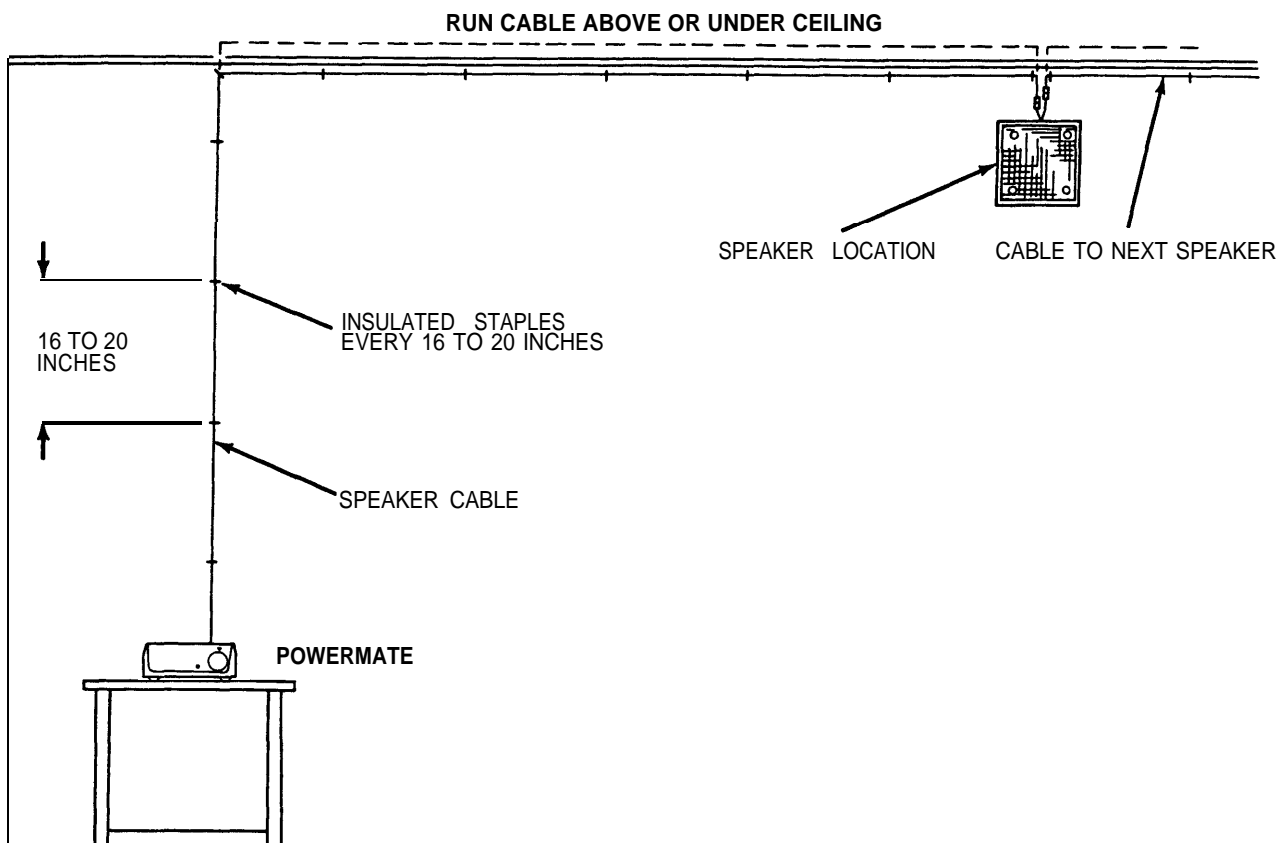

Figure 2-11. Speaker Cable Installation
1. Starting with the phono plug end at the PowerMate location, connect sections of cable as necessary to reach the initial speaker location(s); secure cable every 16 to 20 inches with the staples provided (Figure 2-11), being careful not to puncture cable.